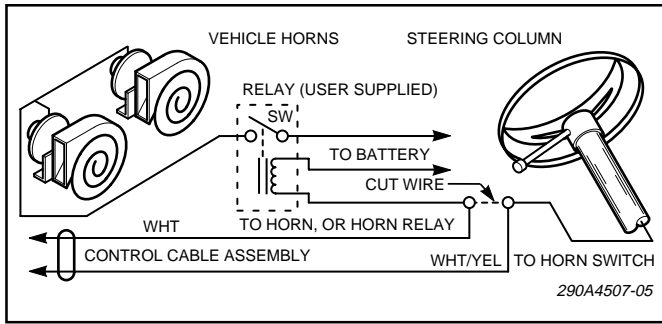

Figure 3-4. Horn Ring Connections.
2. See figure 3-4. Splice the white/yellow control cable wire (pin 4) to the horn ring side of the wire that was cut in step 1. Insulate the splice with user-supplied wire nuts.
4. Obtain a SPST relay of sufficient contact current capacity to activate the vehicle horn. Refer to figure 3-4 while performing the following steps.